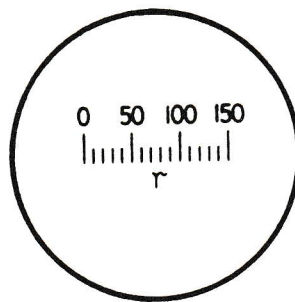

Fig L7.4
14. The small divisions of the scale of the No 4 dosimeter represent 10r. (see Fig L7.4). Unless the fibre image is exactly on a division or exactly mid-way between divisions, the dosimeter will be read to the nearest 5r. above.